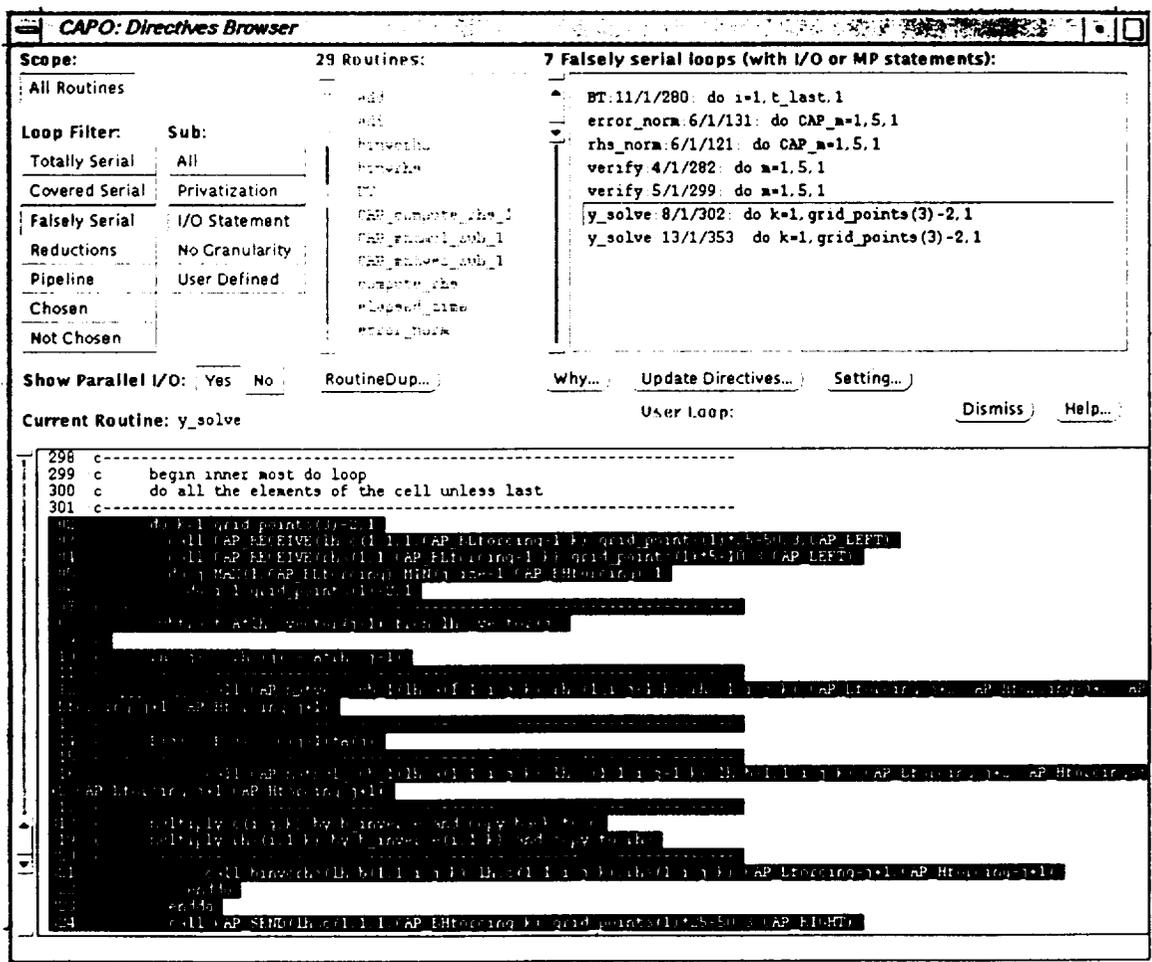
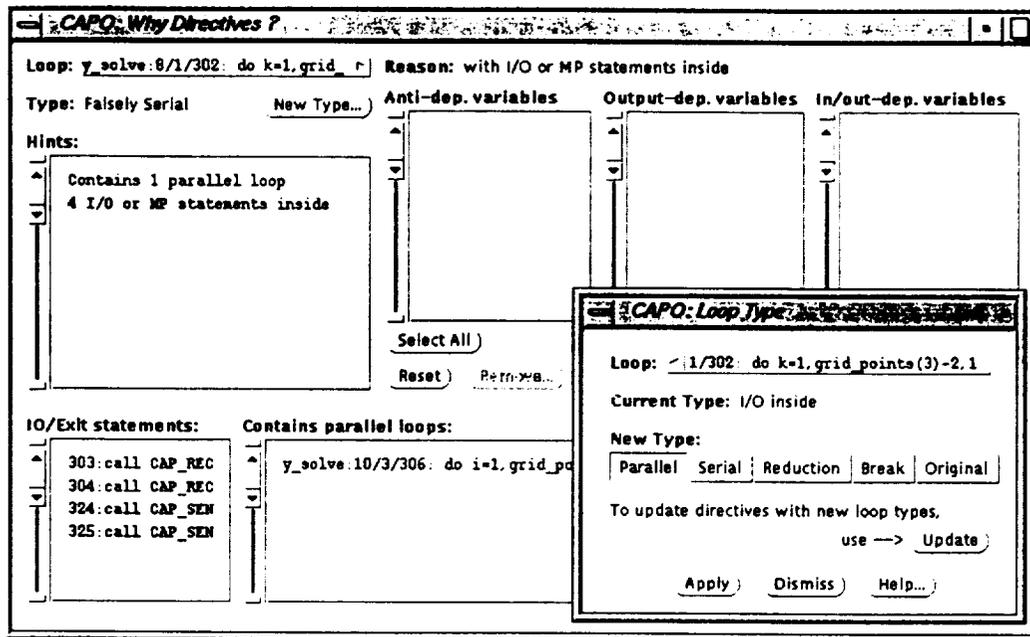

Figure T5-6: The Directives Browser window for the *Falsely Serial* and *I/O Statement* type.
Figure T5-7: The WhyDirectives window for the selected loop and the LoopType window for defining a new loop type.
**10. Re-enforce new loop types.** In the Directives browser window, select the **All Routines** scope, the **Falsely Serial** loop filter and **I/O Statement** sub filter (Figure T5-6). There are two K loops listed under this category. Choose the first loop: `y_solve:8/1/302: do k=1,grid...` and click the **Why** button. The **WhyDirectives** window (see Figure T5-7) indicates that there are four MP (Message-Passing) calls (as part of the parallel pipelines) inside the K loop, which serialize the K loop. If nothing is done here, the inside I loop will be chosen for the second level parallelization with directives, which will not give a good performance.
In order to improve the performance, we can enforce a parallel type for the two K loops with an assumption that the MP calls are thread-safe. This is possible within the context of MPI-2. To define a new loop type, click the **New Type** button in the **WhyDirectives** window (Figure T5-7). Select new type **Parallel** and push **Apply**. A new entry is now added to file `userloop.par`.